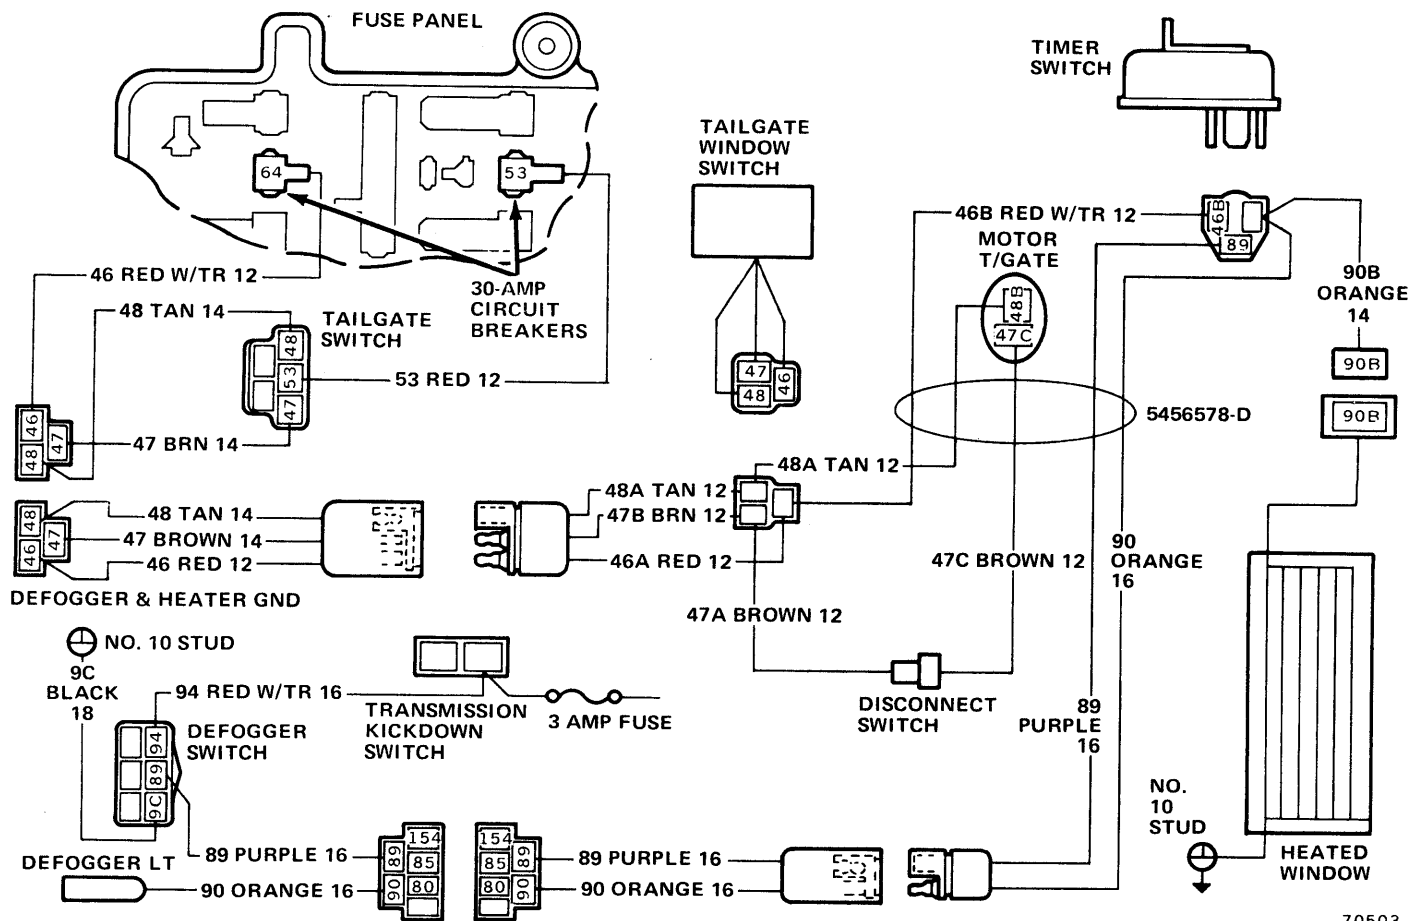

Fig. 3-97 Heated Rear Window Wiring Diagram
Braided wire, soldered to each bus bar at 2-1/2-inch intervals, serves as the electrical feed and ground for the grid. The grid feed wire is attached to the timer-relay, mounted inside the tailgate. The feed to the relay is supplied by a wire attached to the fuse panel power tailgate terminal (fig. 3-97).
(2) Disconnect optional equipment wiring harness at connector under dash. Connect a 12-volt test lamp from purple wire (89) to a good ground (fig. 3-97). Test lamp should light.
(3) Shut off defogger switch and test lamp should not light.
(4) To test indicator light, disconnect orange wire from lamp. Connect a jumper wire from accessory terminal of fuse panel to orange wire. With ignition switch turned to ACC position, the lamp should light.